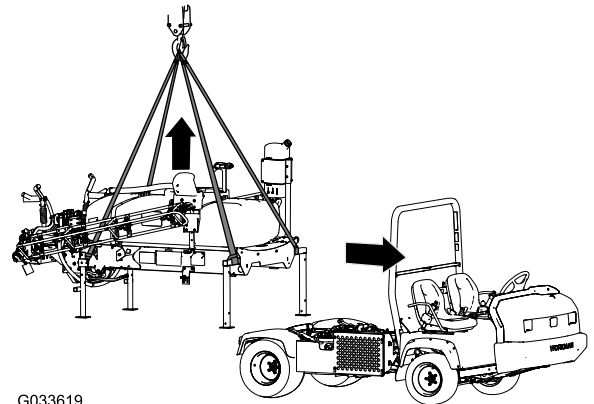

Figure 102
- Lower the booms to approximately 45° and then pivot them forward (Figure 102).
5. Attach the lifting equipment to the horizontal tubes of the forward jack stands and the vertical post of the rear jack stands (Figure 102).
7. Lift the tank skid from the machine high enough to clear the skid from the machine (Figure 102).